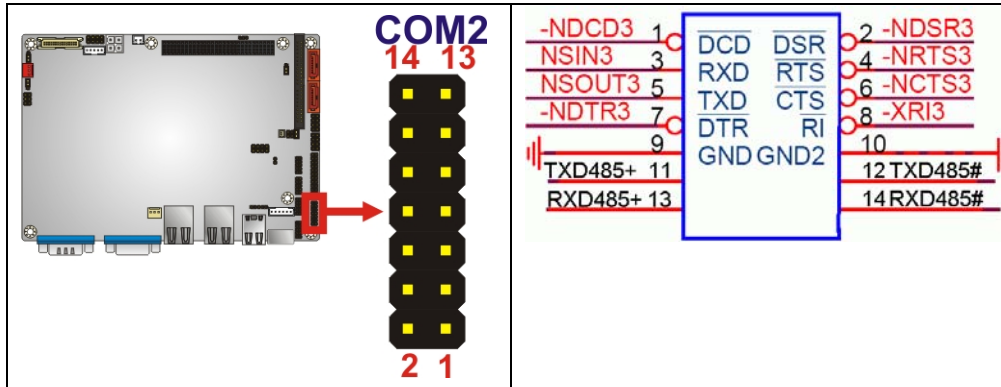

Figure 4-20: RS-232/422/485 Serial Port Connector Location
- CN Location:** See **Figure 4-20**